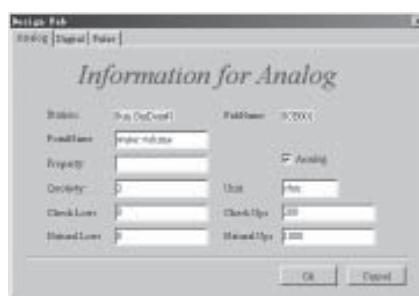

Fig. 4-14 Defining the Tele-metering Port
Step 5. Set **Port I4, Port I5 and Port I6** as **Water volume-Gas volume-Electricity value** respectively, as in Fig. 4-14.